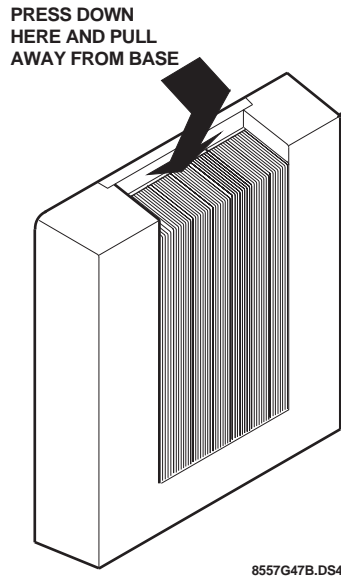

Figure 2. Removing the Cover
2. Remove the HOM cover and set it aside (Figure 2).
- Remove the HOM cover and set it aside (Figure 2).